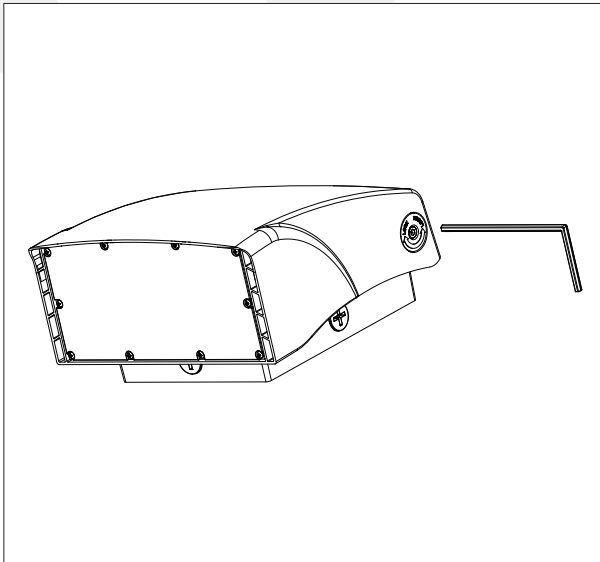
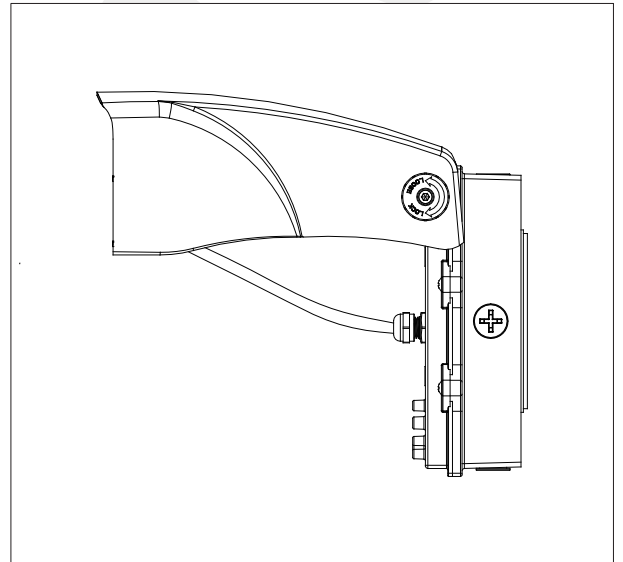

Figure 1
Figure 2
Step 1: Loosen the screws on the side of the radiator with an Allen wrench, and rotate the radiator to 90 degrees(Figure 1 & Figure 2).